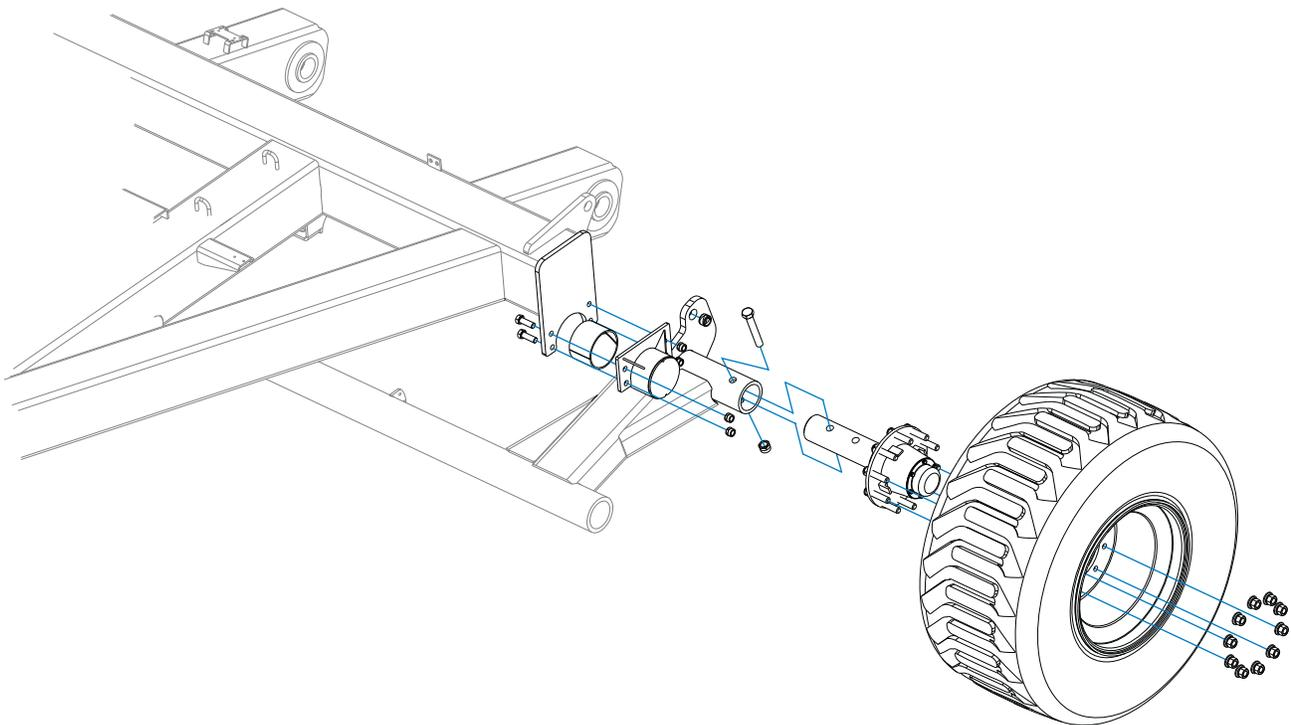

Figure 3-2: Tire and Wheel Installation
1. Install the main wheels and tires to the hitch rockshaft hubs. *See Figure 3-2*